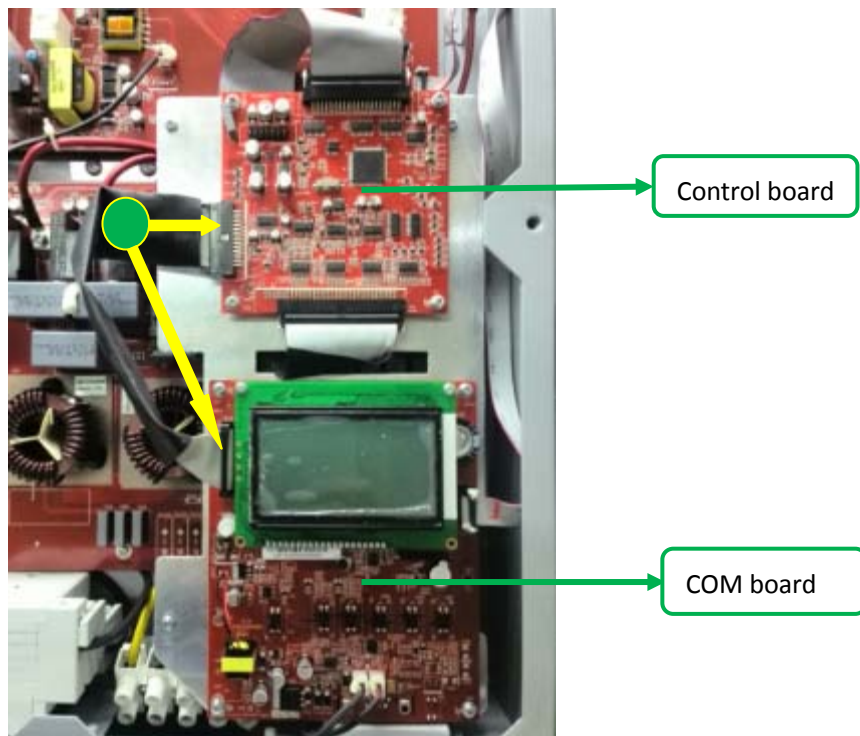

Fig.3.1.1 Signal cable between COM and control board
2. If the warning is not cleared, please power off inverter and open the inverter cover to confirm the signal cable between control board and COM board shown in Fig.3.1.1 is connected well.